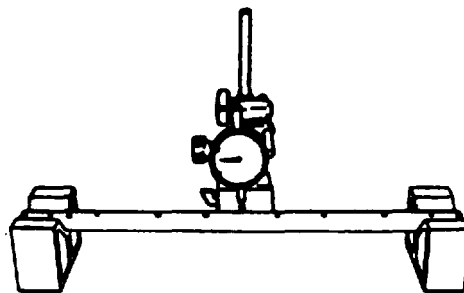

FIGURE 3-54. Rocker Arm Shaft Runout
- (1) Place rocker arm shaft on V-blocks, refer to FIGURE 3-54.